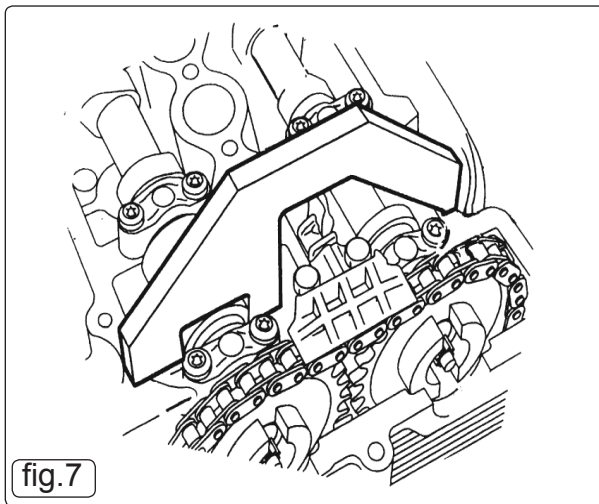

fig.7
- 4.2.2 Remove the Setting Plate, reverse its position and fit onto the exhaust camshaft as shown in Fig.7.